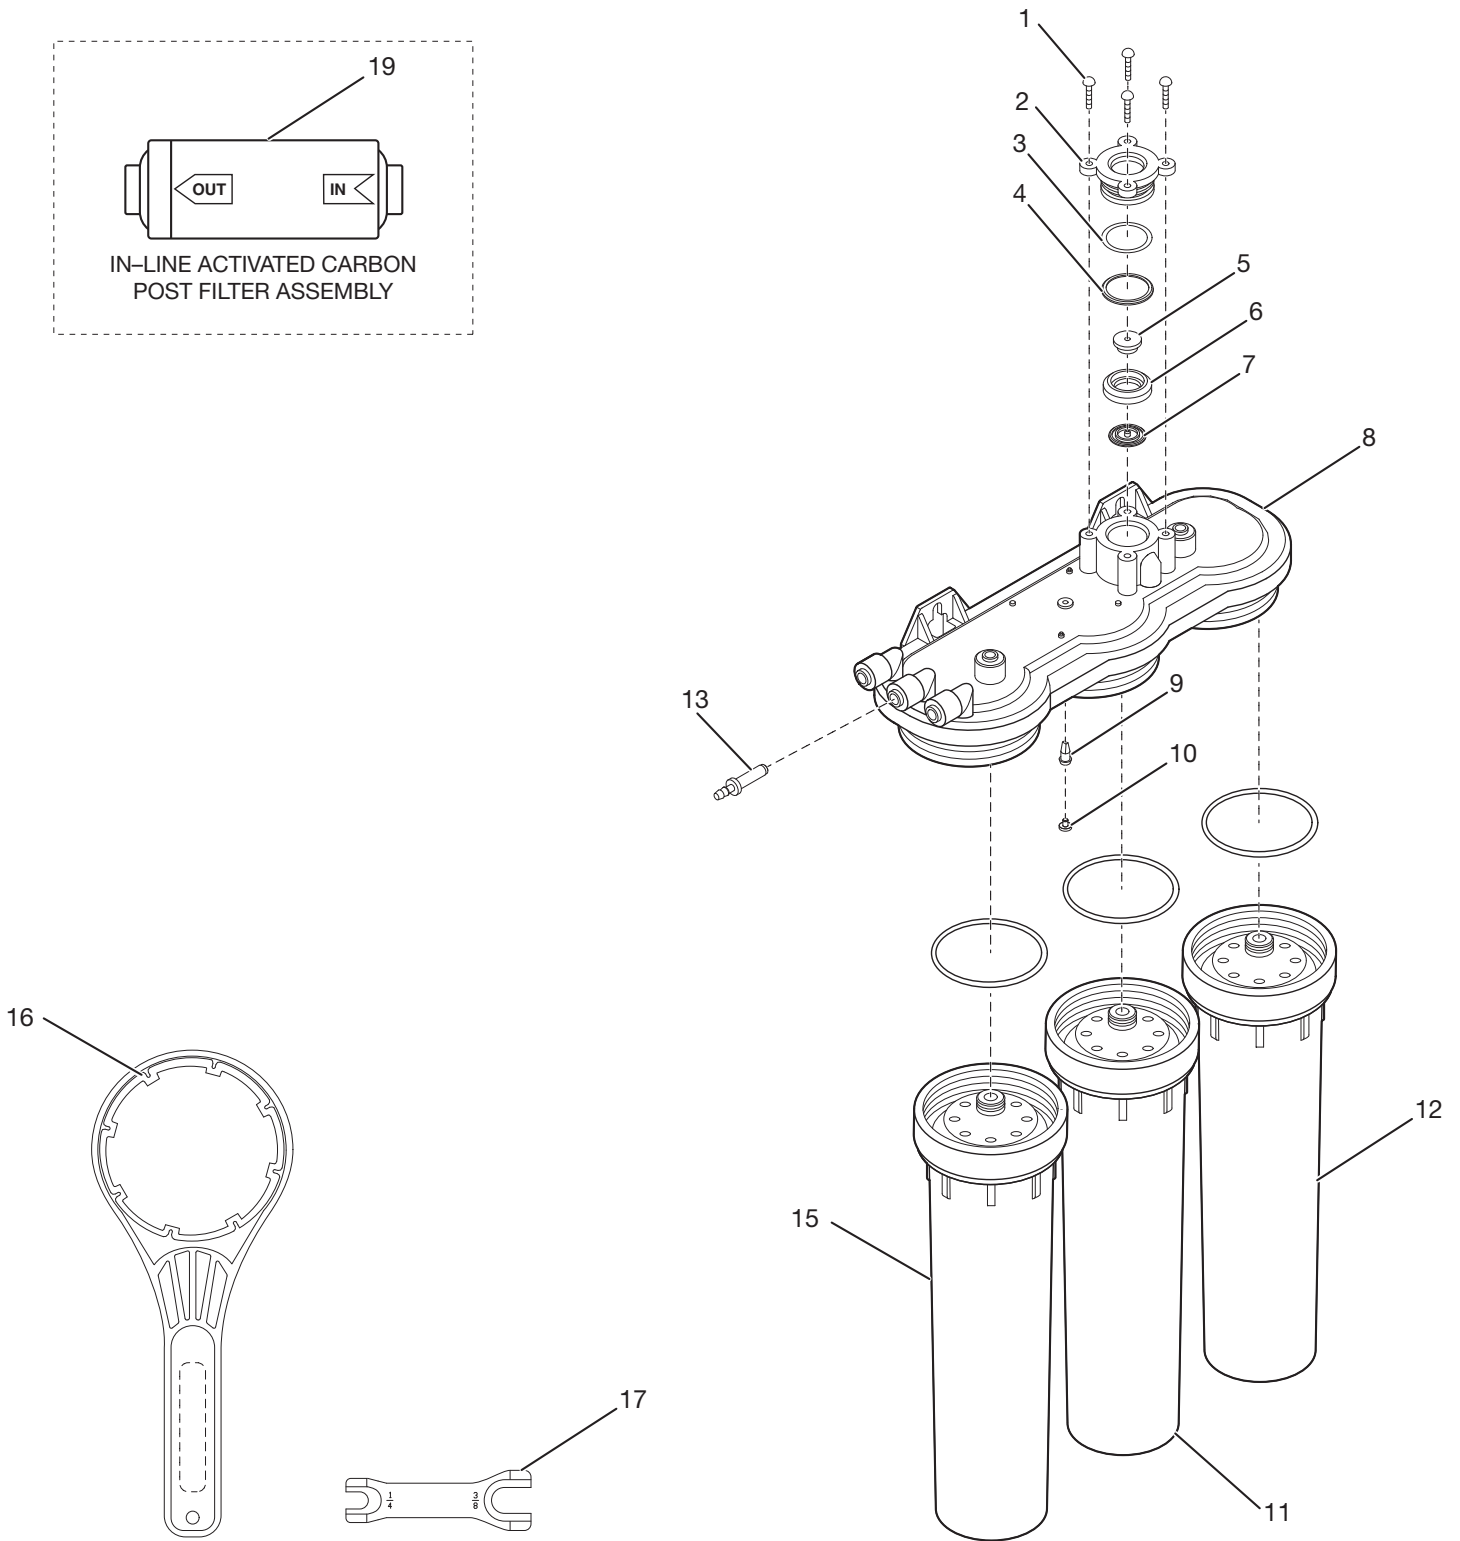

Figure 6: Exploded View
*Not illustrated in Figure 6 "Exploded View"